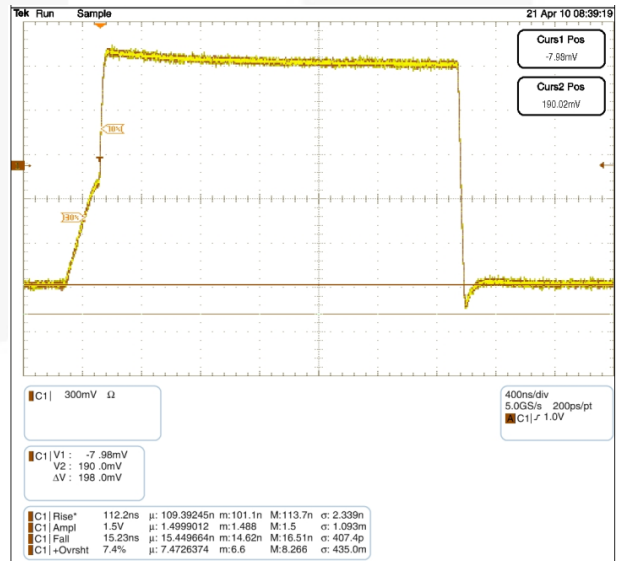

Figure 5. FXMA2102 Waveform C: 600 pF, R_{PU}: 2.2 K
ports until either of the port's V_{CC}/2 thresholds are reached. After the RC time constant has reached the V_{CC}/2 threshold of either port, the port's edge detector triggers both dynamic drivers to drive their respective ports in the LOW-to-HIGH (LH) direction, accelerating the rising edge. The resulting rise time resembles the scope shot in Figure 5. Effectively, two distinct slew rates appear in rise time. The first slew rate (slower) is the RC time constant of the bus. The second slew rate (much faster) is the dynamic driver accelerating the edge.
The FXMA2102 dynamic drivers have enough current sourcing capability to drive a 400 pF capacitive bus. This is beneficial for instances when an I²C buffer / repeater is required. The I²C specification stipulates a maximum bus capacitance of 400 pF. If an I²C segment exceeds 400 pF, an I²C buffer / repeater is required to split the segment into two segments, each of which is less than 400 pF. Figure 5 is a scope shot of an FXMA2102 driving a lumped load of 600 pF. Notice the (30% - 70%) rise time is only 112 ns ($R_{PU} = 2.2 K$). This is well below the maximum edge rate of 300 ns. Not only does the FXMA2102 drive 400 pF, but it also provides excellent headroom below the I²C specification maximum edge rate of 300 ns.